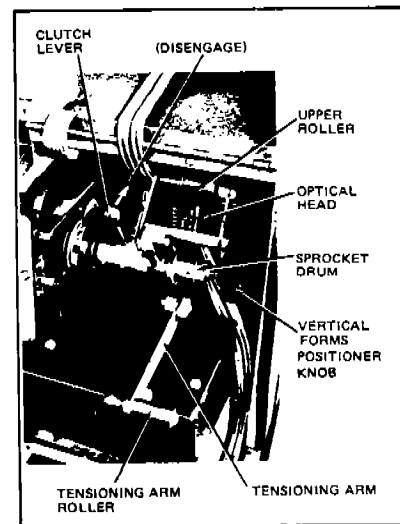

Figure 2
- Lift Tensioning Arm (figure 2) to its fully raised position.